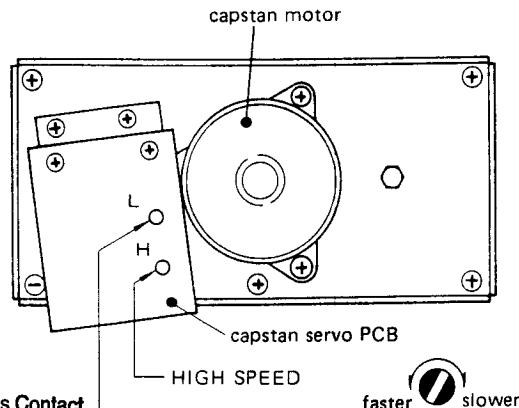

Fig. 2-25
3. Play the tape. Adjust HIGH SPEED control (see Fig. 2-25) for a reading of $3,000\text{Hz} \pm 5\text{Hz}$.